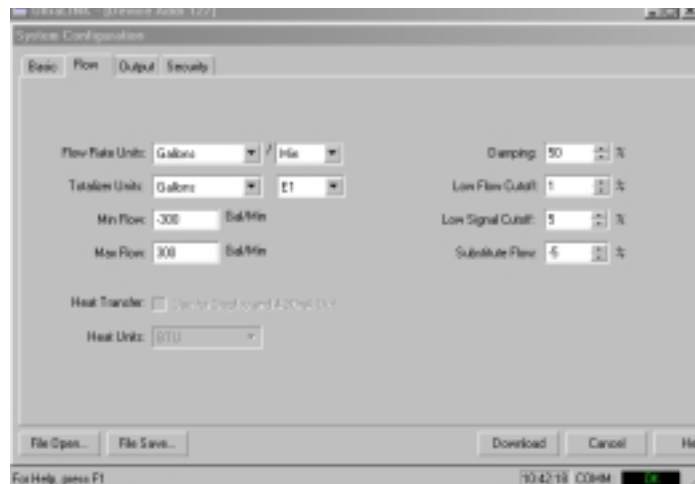

Figure 4.4
5. The **Flow** window, See **Figure 4.4**, requires selection of units of measure, totalizer exponents, flow measur-